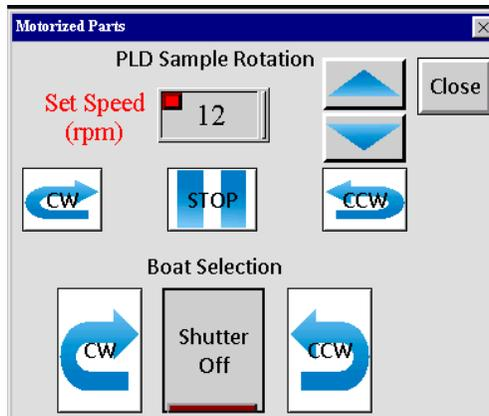

Figure 5-5: Motorized page
- 9- Using the boat selection feature, place the substrate to the desired Source position (Figure 5-5). Use sample rotation to obtain a thin film with high uniformity.